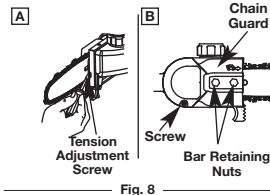
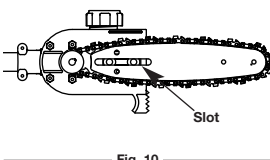

Fig. 8
Fig. 10
1. Remove the bar retaining nuts and screw. Then take off the chain guard (Fig. 8, B).
2. Using a flat-head screwdriver turn tension adjustment screw counterclockwise (Fig. 8, A) 4 turns.
6. Adjust the tension adjustment screw (Fig. 8, A) to allow insertion of the bar (Fig. 10). Make sure the chain follows the slot in the guide bar and adjust the tension adjustment screw to make the chain fit snugly on the underside of the bar.
7. Install the chain guard and tighten bar retaining nuts and screw (Fig. 8, B).
1. Loosen the bar retaining nuts so they are hand tight (Fig. 8, B).
2. Holding the nose of the bar up, use the screwdriver to turn the guide bar adjustment screw clockwise to tighten the chain (Fig. 8, A). Turning the screw counterclockwise loosens the chain on the guide bar.